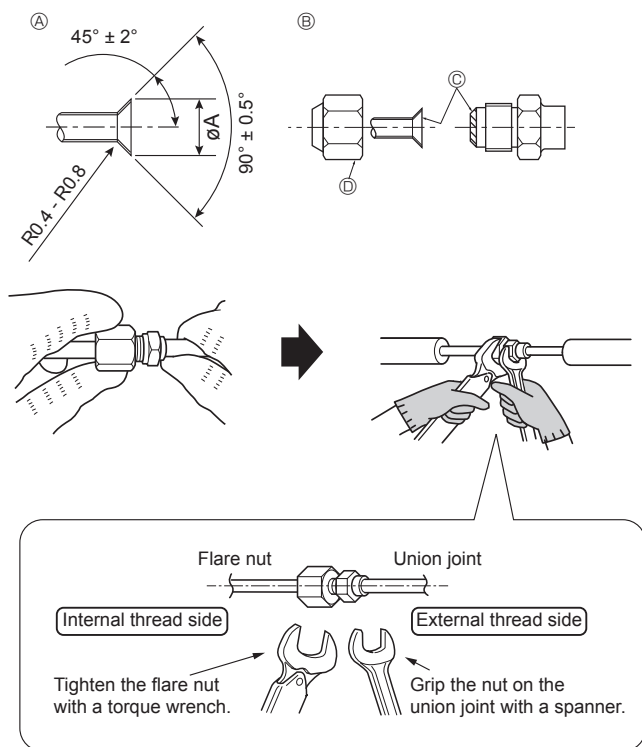

Fig. 4-2
4.3. Connecting pipes (Fig. 4-2)